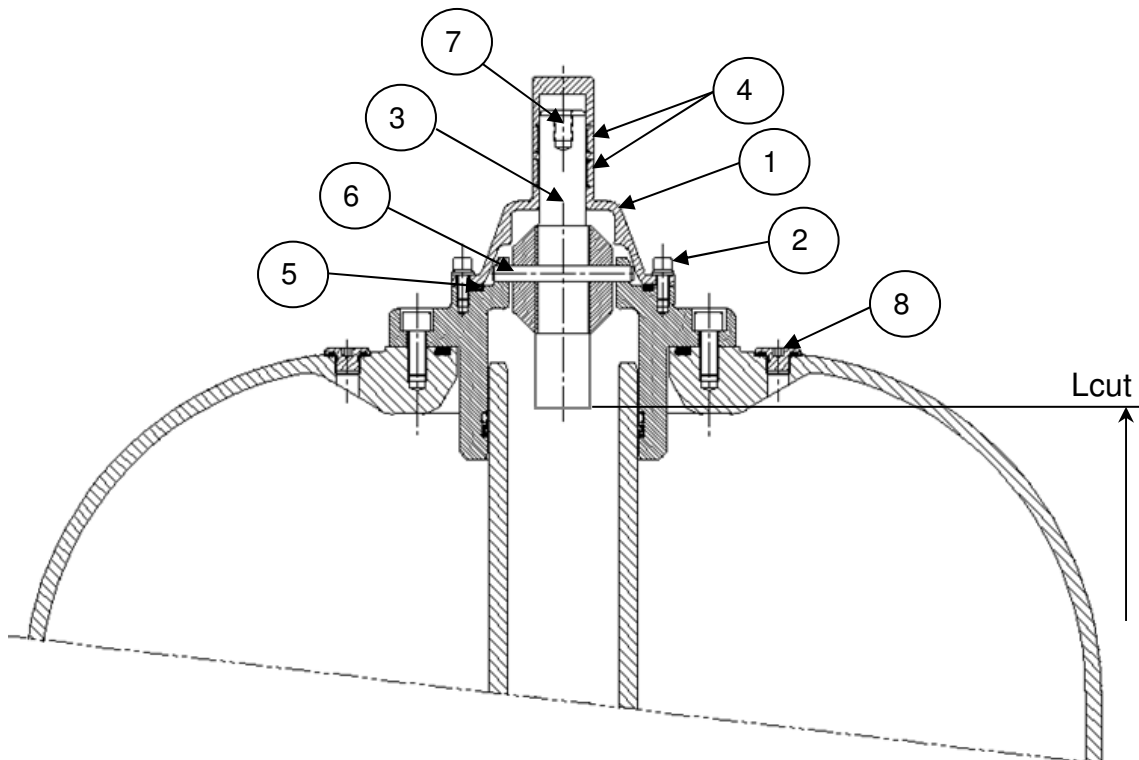
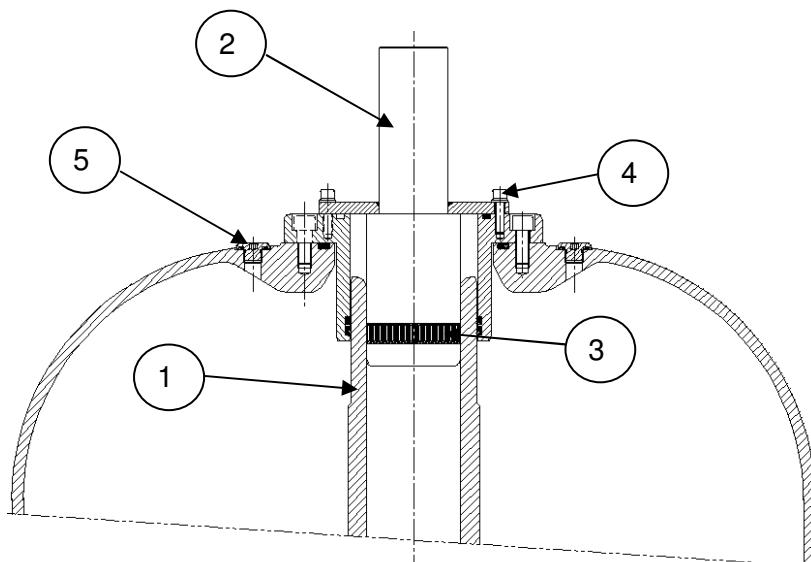

Fig. 19
Fig. 22
In this type of execution, the current in the bushing is carried out directly by the lead coming from the transformer's winding, up to the lug placed in the upper part of the bushing (fig. 19). Complete the assembly as follows:
- The lug must be removed from the head of the bushing in order to make the connection (ref. fig.19): to disassemble the HV top terminal cap (1), remove the 4 x M8 screws and lock washers (2), which secure it to the bushing head. Pull the HV top terminal (1) from the lug (3), keeping the terminal well centered on the axis of the bushing. The necessary force is small (about 10 kg) because the multicontact blades (4), located inside the terminal, press softly on the smooth surface of the lug (3). Verify that the O-ring (5) remains in place.
- Remove the locking pin (6) from the lug hole.
- Remove the copper lug (3) from the central tube of the bushing;
- Make the connection, through brazing, of the lead coming from the transformer winding to the copper lug (3);
- Fix an eyebolt on top of the lug, using the M12 hole (7), to which a rope must be tied, for the lug sliding operation into the bushing from the bottom part;
- Align the hole in the lug (3) with the hole in the central tube and secure the lug in position by reinstalling the locking pin (6);
In this type of execution, the current is carried directly by the central bushing conductor, not removable; the passage of current from the bottom terminal and the tube and from the tube (1) and the top bushing terminal (2) (fig. 22) is obtained by means of special rings equipped with multicontact blades (3).
Furthermore lift a bit the HV terminal in order to allow the air to go out and complete the filling of the transformer and of the lower part of the inner tube of the bushing (ref. to item 1 of fig. 19 in case of draw lead or draw rod types, ref. to item 2 of fig. 22 in case of bottom connection bushings; make reference to paragraph 4.3).
To carry out this operation remove some bushing oil or add transformer mineral oil accurately treated, through the head's plug placed in the upper part of the head, close to the HV terminal (item 8 – fig. 19, item 5 – fig. 22) in order to have a suitable oil level in the whole range of operating temperatures. The cap must then be re-screwed with a torque of 100 Nm.